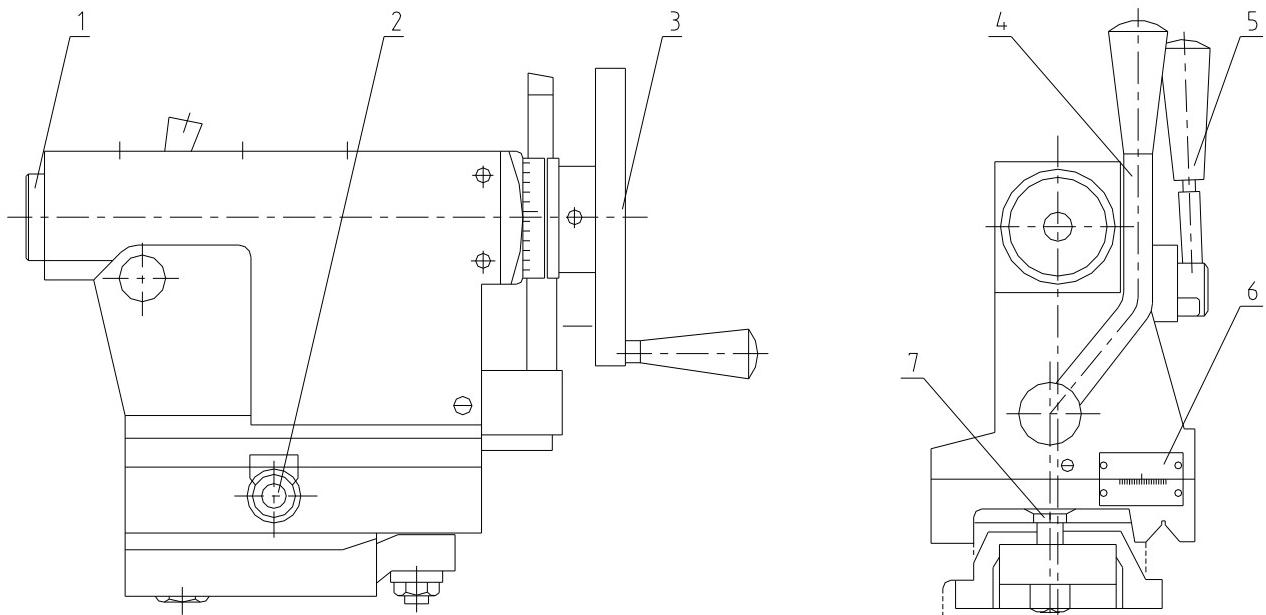

Fig.6-9. Tailstock sidewise displacement
6.2.7 TAILSTOCK SIDE DISPLACEMENT (See Fig.6-9 and Fig.6-10)